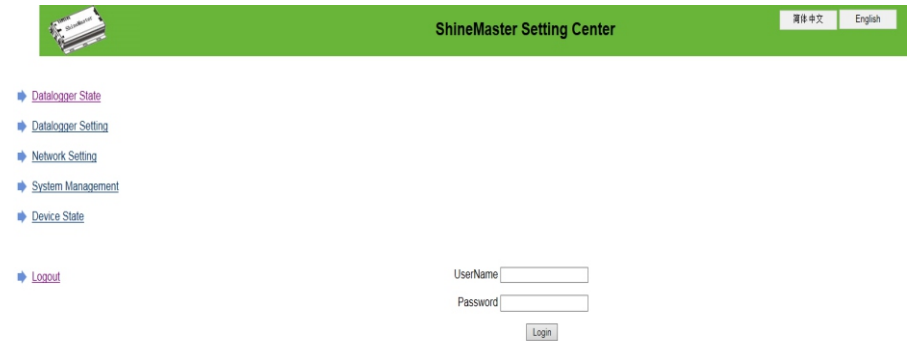

Fig 4-1
1. If the user successfully access the ShineMaster internal page, you can directly enter the built-in page login interface, as shown in Figure 4-1